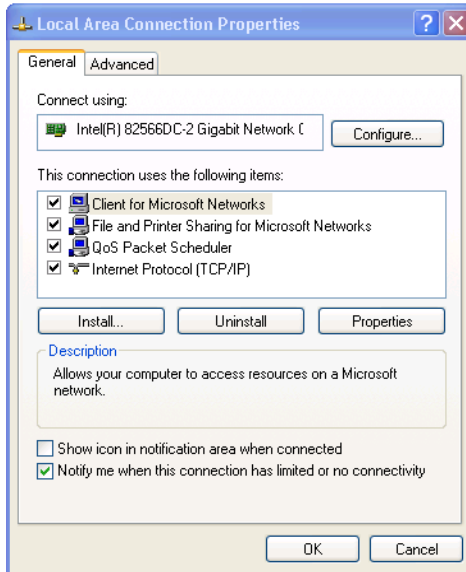

Figure 8: Local Area Connection Properties Window
5. Select **Internet Protocol (TCP/IP)** (see Figure 8).